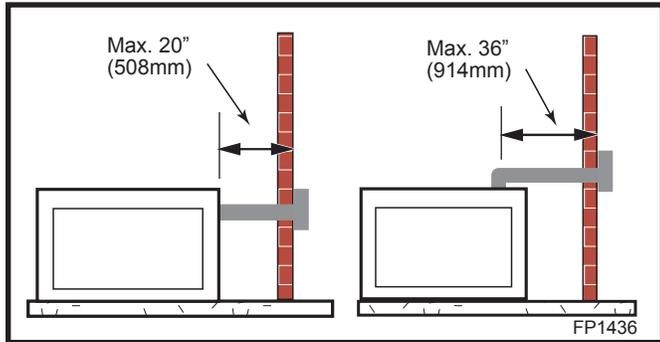

Fig. 21 Maximum horizontal run w/no rise.
- If a 90° elbow is used in the horizontal vent run (level height maintained), the maximum horizontal vent length is reduced by 36" (914 mm). (Fig. 21) This does not apply if the 90° elbows are used to increase or redirect a vertical rise.